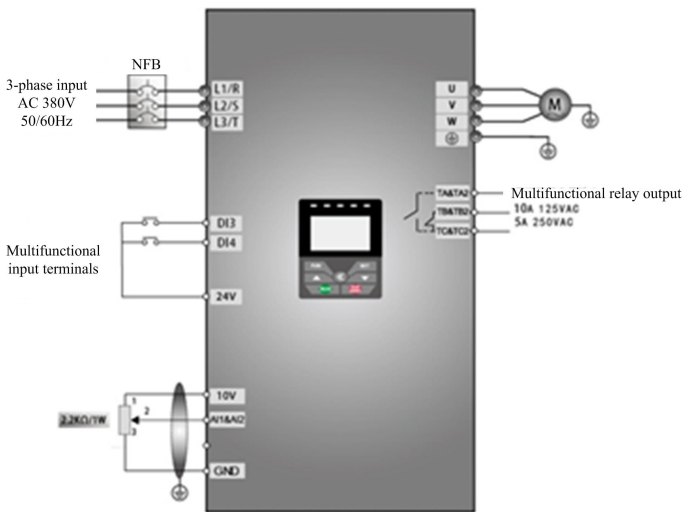

Figure 4-3 Wiring Diagram 3(PNP)
- (1) Connect the wires in accordance with Figure 4-3. After having checked the wiring successfully, switch on the air switch, and power on the inverter.